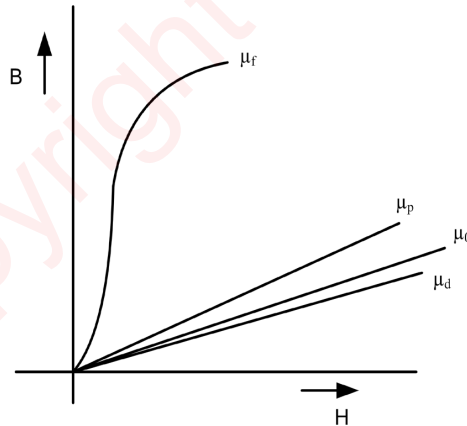

Fig. 4.8: B-H curve of different types of magnetic material
Fig. 4.8 shows the permeability of different types of magnetic materials. The subscript shows whether the material is ferromagnetic, paramagnetic, free space or diamagnetic.
The magnetic field generated by a single conducting wire is not very strong. The field intensity can be increased by giving shape to a conductor as a tightly wound coil having N turns. The arrangement effectively increases the current linked by the flux lines N fold. The product N.I is called the magnetomotive force F and its unit is ampereturns (AT). Fig. 4.8 shows a ferromagnetic material having circular cross section is excited by a coil having N turns and carrying a current I. The flux established in the magnetic core is circular in shape with major portion of the flux lines passing through the core due to its high permeability. The small portion of the flux line that passes through air is known as leakage flux.
is called the self-inductance of the coil and its unit is H(henrys). For a ferromagnetic material with B-H curve as shown in Fig. 4.8, the curve being nonlinear, the self-inductance corresponds to an incremental value corresponding to incremental change around an operating point on the curve.